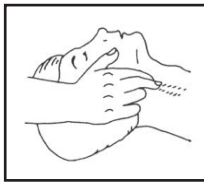
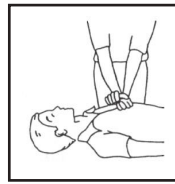
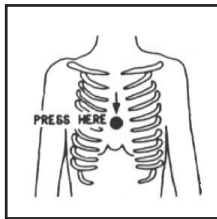

Figure 3
Figure 4
Figure 5
- Check carotid pulse (**Figure 3**); if pulse is absent, begin artificial circulation (**Figure 4**) depressing sternum (**Figure 5**).